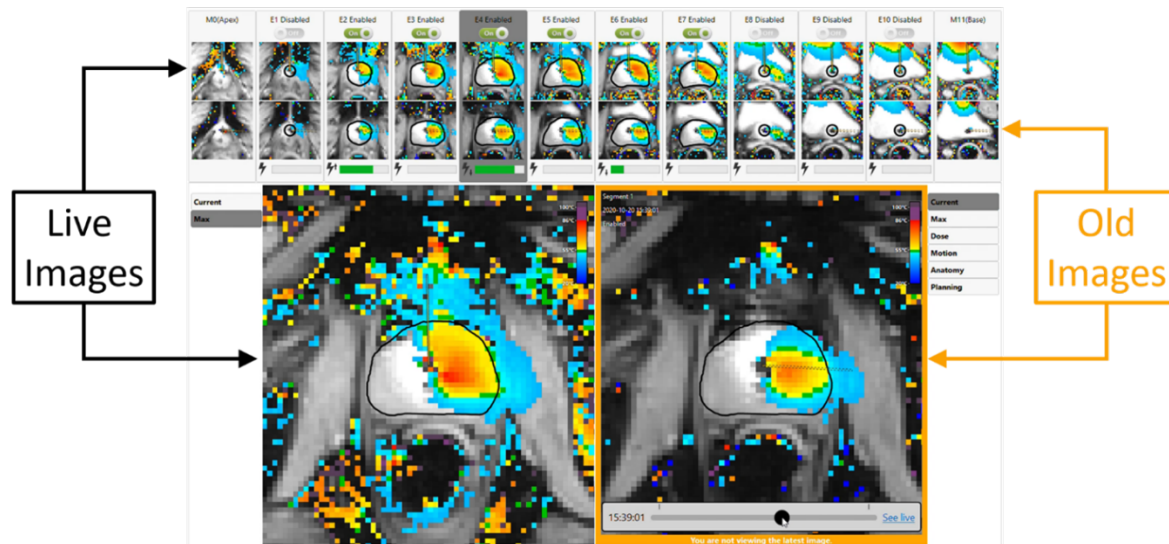

Figure 52: “You are not viewing the latest image” message below history slider
**NOTE:** When viewing images from previous timepoints, a frame around the right viewport shows that the latest images are not being viewed (*Figure 52*). A dashed line shows where the beam angle was at the previous timepoint. To return to the current timepoint, click **See live** or drag the History Slider until the framed message disappears.